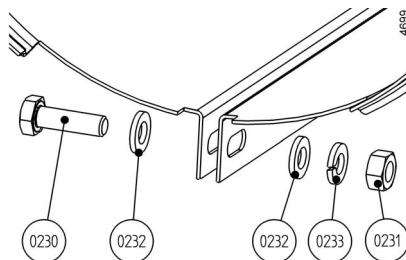

figure 19: Fitting bolt and nut with washers and spring washer.
- 1 Loosen bolts (0230) and nuts (0231) and remove these including washers (0232) and (0233). See figure 19.
10 Close the jacket and fit a bolt (0230) and nut (0231) with washers (0232) and (0233) into the hole at motor side. See figure 19 for the proper mounting sequence.
- 12 Close the jacket and fit a bolt (0230) and nut (0231) with washers (0232) and (0233) into the hole at pump side. See figure 19 for the proper mounting sequence.